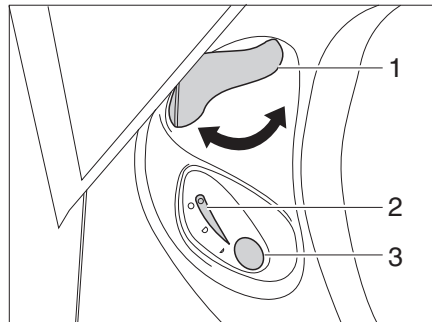

Fig. 159 Operating unit Thetford toilet
- Before flushing open the sliding trap of the Thetford toilet. To do this, turn the slide lever (Bild 159,1) anticlockwise.
- For flushing, press the blue flush button (Bild 159,3).
The indicator lamp (Bild 159,2) goes on whenever the Thetford cassette has to be emptied.
- Turn the slide lever (Bild 159,1) clockwise. The sliding trap is closed. To empty, the sliding trap in the Thetford toilet **must** be closed.